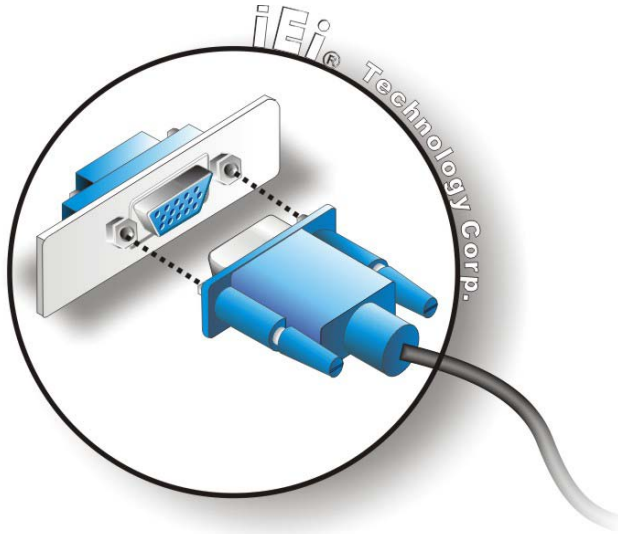

Figure 3-13: VGA Connector
- Step 3:** **Insert the VGA connector.** Once the connectors are properly aligned with the insert the male connector from the VGA screen into the female connector on the uIBX-230-BT. See **Figure 3-13**.